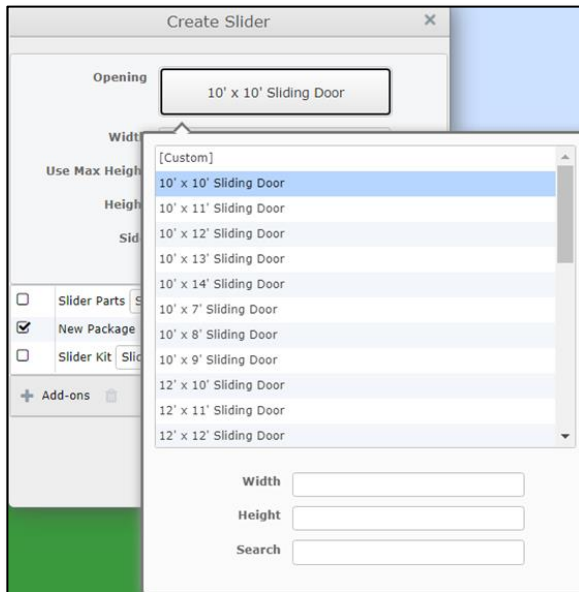

Figure 9: The drop-down list of available Slider Doors.
**Opening** – Click on the *Opening* field to activate a drop-down list of the available Slider Door options, as pictured in Figure 9 at left. You can either select an item from this list by clicking on it, or you can choose the *Custom* option to enter a door Height and Width not otherwise available on this list.